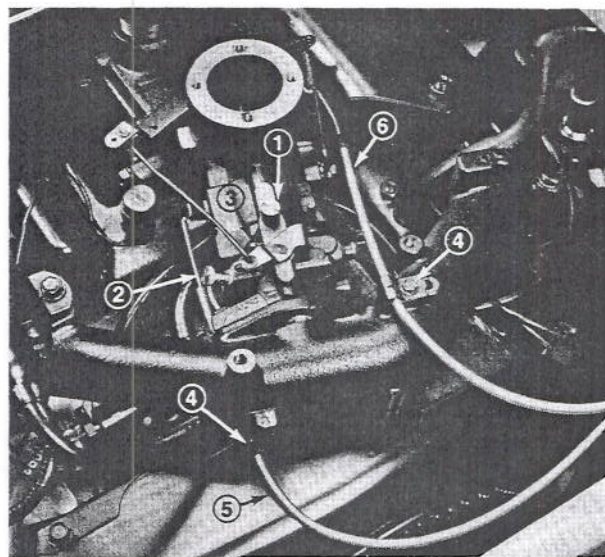

Figure 23
1. Main fuel screw (Fig. 23) — Close screw by gently rotating it clockwise.
3. Idle fuel adjusting screw (Fig. 23) — Close screw by gently rotating it clockwise. Open screw by rotating it 1 - 1-1/2 turns counterclockwise.
6. Idle Speed Setting (Fig. 23) — Run engine at half-throttle for 5-10 minutes to warm up. Move throttle to SLOW and set engine speed to 1750 RPM by turning the idle speed adjusting screw clockwise or counterclockwise.
1. Loosen cable clamp screw securing cable to engine (Fig. 23).
3. Pull firmly on throttle cable till governor arm contacts stop (Fig. 23).
3. Pull firmly on choke cable and tighten cable clamp screw (Fig. 23).